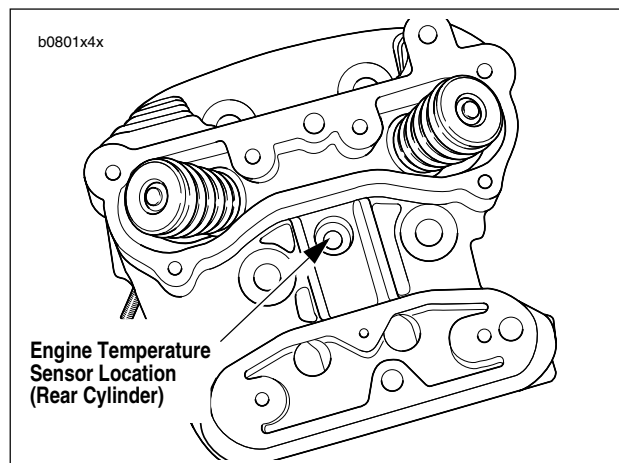

Figure 7-7. Engine Temperature Sensor Location
2. See Figure 7-7. Unplug 1-place connector [90] above rear cylinder head.